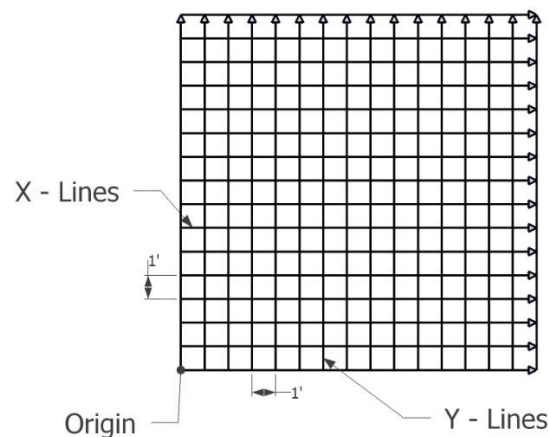

Figure 7-3: X-Lines and Y-Lines relative to the Origin.
Step 1 – Define the axis- Lines parallel to the Y-Axis are called Y-Lines. Similarly, lines parallel to the X-axis are called X-Lines (Figure 7-3). Pick the origin of the grid such that it is the furthest corner away from any obstacles. This way, all the lines start properly, but they can be ended early if there is an obstruction.